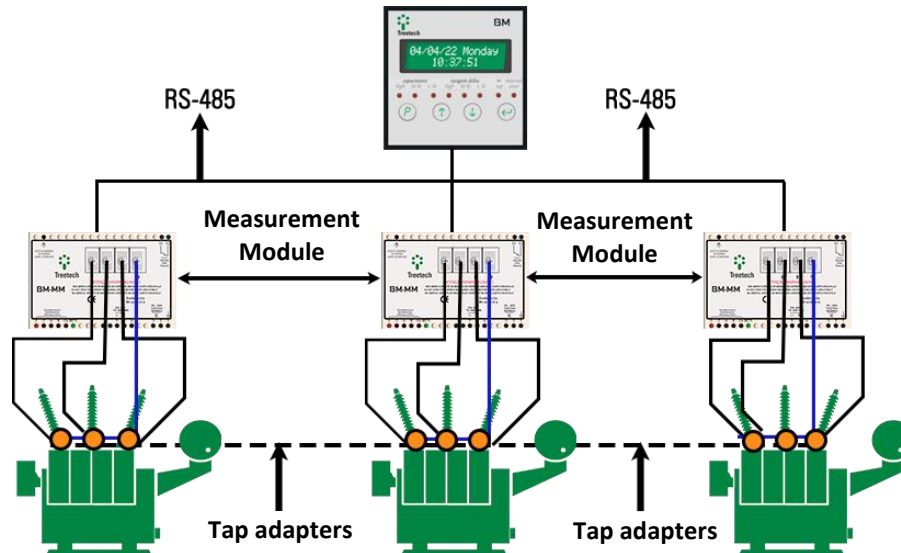

Figure 6 - Interconnection Block Diagram
- **Interface Module - BM-HMI** - It receives information from one, two, or three measurement modules (BM-MM), displaying the current capacitance and tangent delta values of each bushing on the front displays. It also provides analog outputs (mA), alarm contacts, and RS-485 and RS-232 serial communication ports available to the user. Figure 6 illustrates the interconnections between these parts.